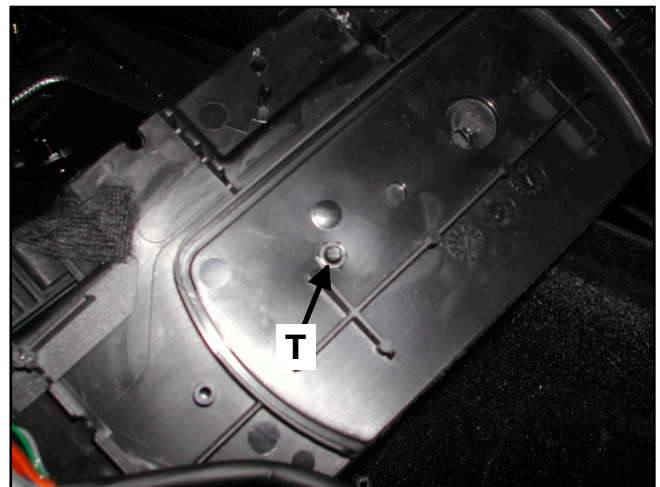

Figure 11
2. Using a short 1/8" bolt and nut secure the cradle through the screw hole closest to the Tele-Aid side of the phone panel. (T, Figure 11)